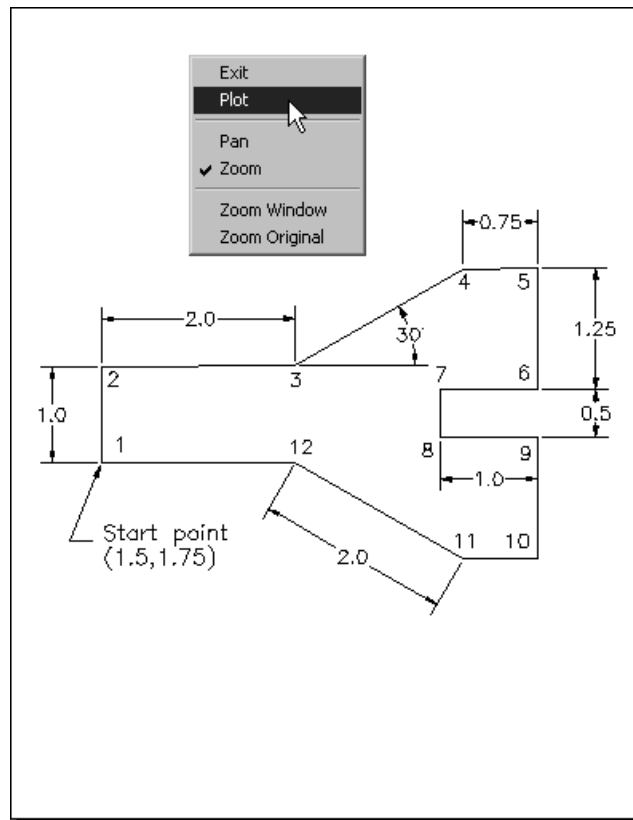

Figure 2-57 Plot preview with the shortcut menu
7. You can preview the plot on the specified paper size before actually plotting it. This way you can save time and stationery. To preview a plot, choose the **Preview** button. Once regeneration is complete, the preview image is displayed on the screen, see Figure 2-57. Here, in place of the cursor, a realtime zoom icon is displayed. You can hold the pick button of your pointing device and then move it up to zoom into the preview image and move the cursor down to zoom out of the preview image.
8. If the plot preview is satisfactory, you can directly plot your drawing by choosing **Plot** from the shortcut menu, as shown in Figure 2-57. If you want to make some changes in the settings, choose **Exit** in the shortcut menu or press the ESC or the ENTER key to get back to the dialog box. You can also choose the **OK** button in the dialog box to plot the drawing.
This tab stores the directories in which AutoCAD LT looks for the driver, support, menu, project, template, and other files. It uses three icons: folder, paper stack, and file cabinet. The folder icon is for a search path, the paper stack icon is for files, and the file cabinet icon is for a specific folder. Suppose you want to know the path of the help file. You can select the **Miscellaneous File Names** folder and then select the **Help File** icon to display the path, see Figure 2-57. Similarly, you can define a custom hatch pattern file and then add its search path. This way AutoCAD LT can locate the custom hatch pattern.